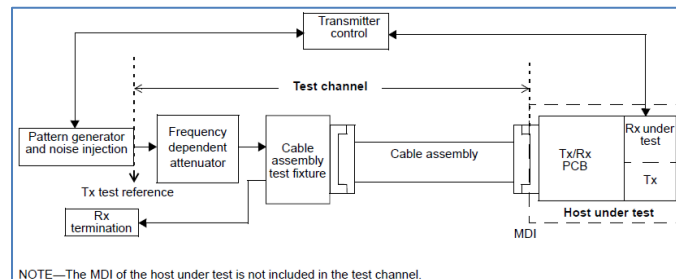

FIGURE 94. INTERFERENCE TOLERANCE TEST SETUP SCHEMATIC (REFERENCED FROM IEEE802.3CK STANDARD, FIGURE 110-3A)
2. Referring to Figure 94 below, allow the Rx equalizer value to automatically optimize or set sweep to determine the minimum BER result. Set the Tx (NEXT crosstalk) of the DUT to the **PRBS31Q** pattern, **Preset 0**, and Output **On**.